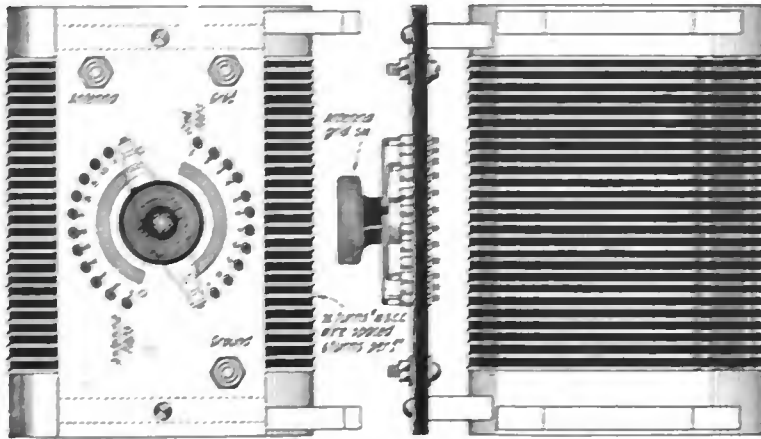

Figure 6—Front and side views of the tuning coil and switch
dilecto form 4¾ inches outside and 6½ inches long (figure 6). The wire is wound in a small groove made by threading the dilecto form with a thread of 6 turns per inch. Taps are taken and brought to studs on a wave length control switch which also controls simultaneously the grid tap position. The proper turns from which taps are made is listed below:
8. Wave length switch—This switch is to be located inside the set because when adjustments are once made no tinkering is required and the set can be started at all times to operate satisfactorily. It is shown in figure 6.